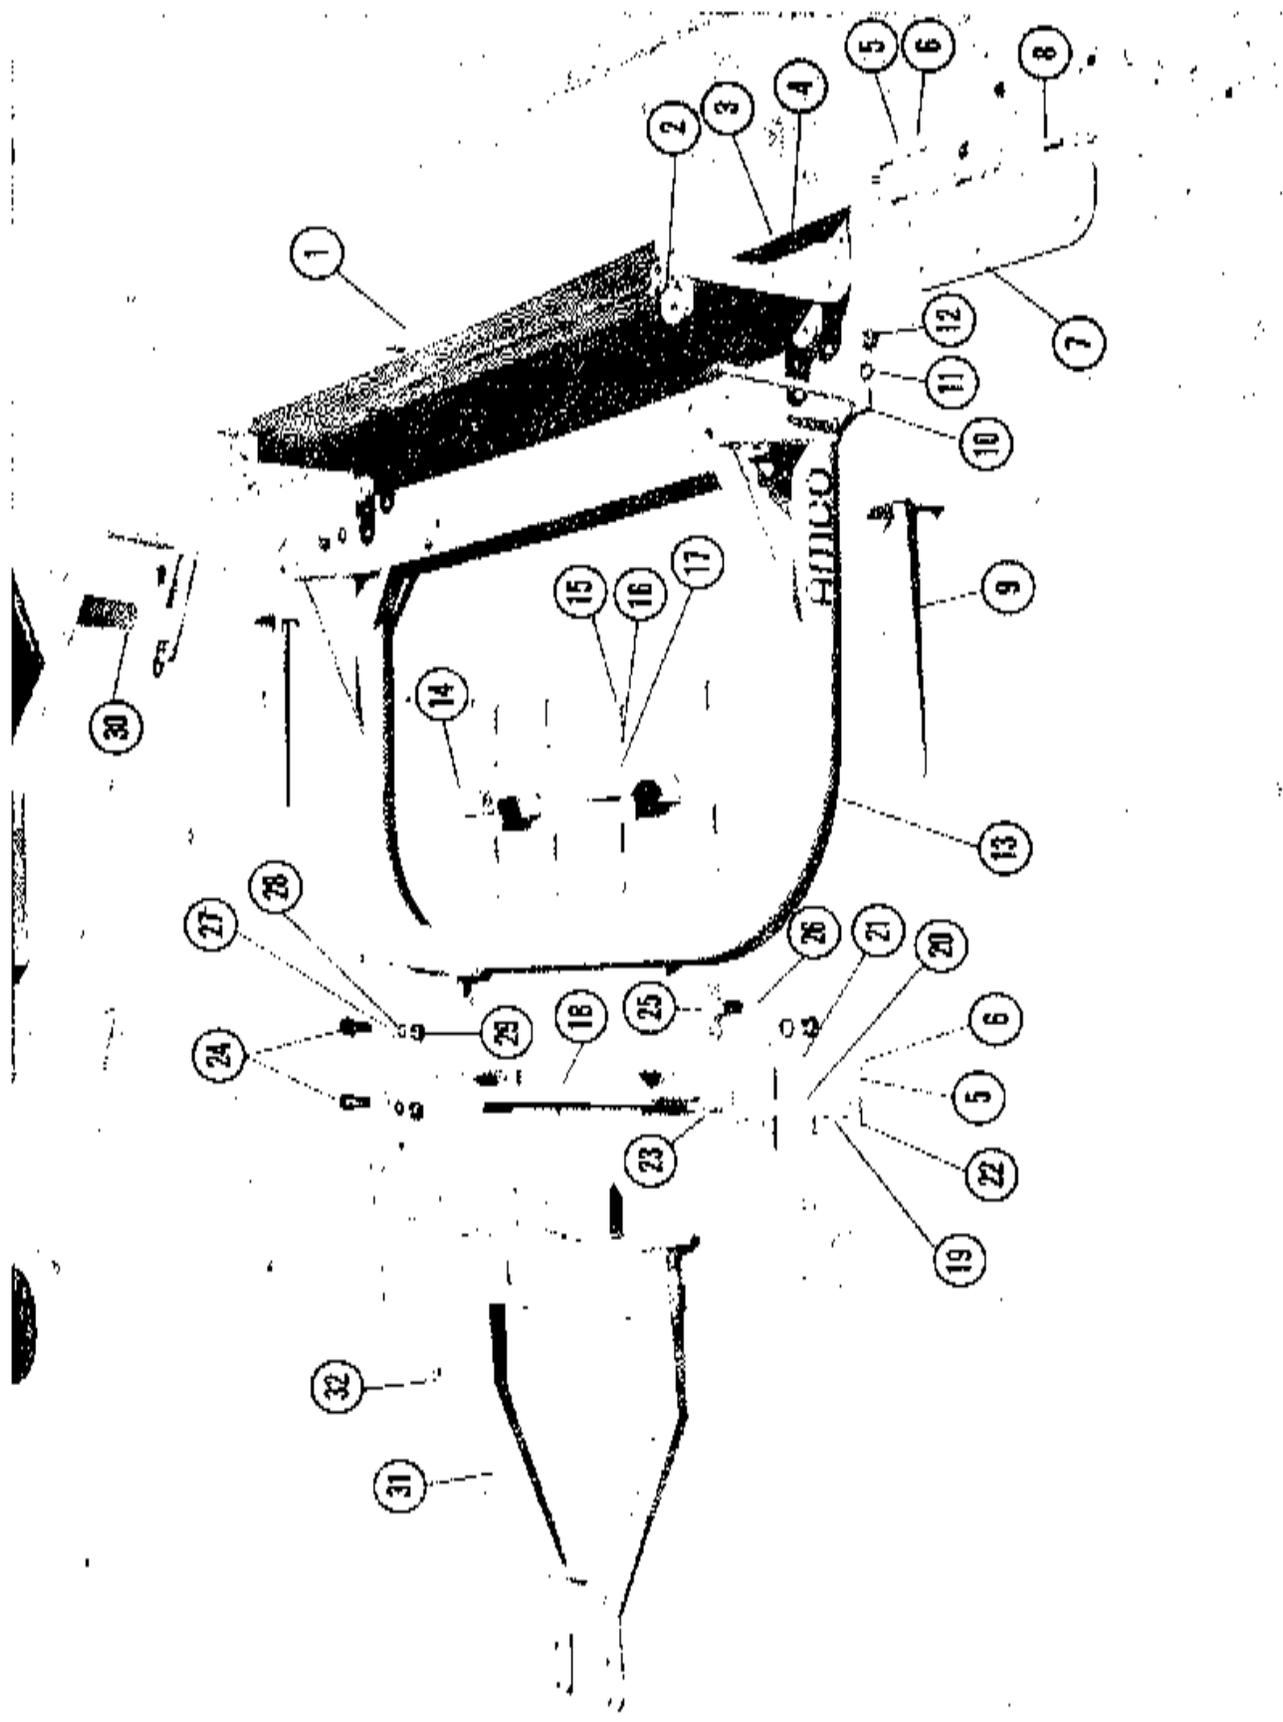

FIG. 1
Drive the tractor's front wheels over the "C" frame (Fig. 1 No. 13). The tractor's front wheels should be inside the "C" frame and the holes in the front mount plates should be over the mounting holes in the dozer carriage frame (Fig. 1 No. 34). Lift the front of the carriage frame and insert one 5/8" diameter carriage bolt through the front mount plate and carriage frame mounting plate. Repeat this procedure by placing a bolt through the mount plate and carriage frame mounting plate on the opposite side of the tractor. Tighten the two bolts hand tight.
Insert five 5/8" diameter carriage bolts through the left front mount plate and the carriage frame mounting plate and tighten these bolts hand tight. Repeat this procedure on the right side but be sure and mount the adjusting leg anchor (Fig. 1 No. 23) on the two bolts near the upper rear portion of the right front mount plate. The adjusting leg and guide sleeve (Fig. 1 No. 19, 20) should now be mounted on the right front of the carriage frame (Fig. 1 No. 34).
After the dozer has been mounted on the tractor, the dozer can be disassembled at the bearing caps (Fig. 1 No. 14). The carriage frame can be left on the tractor and the tractor can be used for other jobs.
The cutting depth of the dozer is regulated by the hydraulic cylinder. In addition to the hydraulic cylinder, the AMCO Model No. 800 Farm Tractor Dozer has a set of two depth gauges (Fig. 1 No. 9) as standard equipment. These depth gauges can be used to keep the dozer from going too deep at the beginning of a cut. Also, the depth gauges can be used when scraping a feed lot or on many other dozing jobs.
The height of the depth gauge is regulated by loosening the set screws at the upper outside corners of the moldboard (Fig. 1 No. 2) sliding the depth gauge to the desired setting and tightening the set screws.
The AMCO Model No. 800 Farm Tractor Dozer Blade can be tilted about eight inches to the right or left. Before tilting the dozer, loosen the 1-3/8" diameter slide bolt on the right front corner of the carriage frame (Fig. 1 No. 25) then loosen the two pivot bolts on the left front corner of the carriage frame (Fig. 1 No. 24). Tilt the blade with the screw jack, located on the right side of the bearing journal (Fig. 1 No. 19 & 20).
III. Angle Bracket: (Fig. 1 No. 33)
The bracket can be used to angle the dozer to the right or left. To mount the bracket, lift the dozer to the highest position. Remove the bolt that holds the moldboard to the "C" frame on the side you wish to mount the bracket (Fig. 1 No. 10). Loosen the set screws that hold the depth gauge in place (Fig. 1 No. 2). Swing the moldboard out from the "C" frame and remove the depth gauge (Fig. 1 No. 9). Place the angle bracket between the mounting lugs on the moldboard and replace the depth gauge sliding it up through the holes in the angle bracket. Mount the other end of the bracket to the "C" frame with the anchor bolt (Fig. 1 No. 10).
IV. Dozer Blade End Plates: (Fig. 1 No. 7)
V. Transport Bar: (Fig. 1 No. 30)
- I. Grease the two bearing caps (Fig. 1 No. 14) with a good grade of pressure gun or chassis grease before using the dozer. The bearings should then be greased every day or after every 10 hours of operation.
Brush Rack (Fig. 1 B)
The brush rack (Fig. 1 B) was designed to mount on your AMCO Farm Tractor Dozer's moldboard. This rack was designed to protect your tractor and operator from brush and trash. This rack will also aid in piling brush or trash.